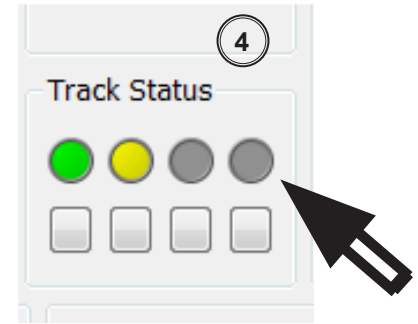

Figure 7.
2. Click the rightmost LED button and verify that the LED button shown by Figure 7 and the corresponding track LED on the front arch of the ScanX both illuminate green.
3. Click the same LED button again. Verify that the LED button shown by Figure 7 and the corresponding track LED on the front arch of the ScanX both illuminate amber. If the LED button's display color is amber and the arch track LED does not turn to amber, there is a problem with the Status board located in the top arch cover. Contact Technical Support. Always have the Serial Number of the ScanX and doctor's name, address, and telephone number available when calling.